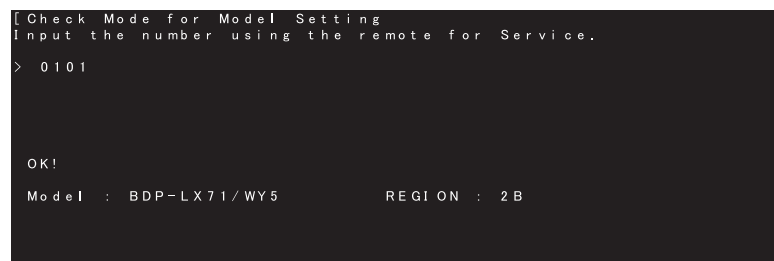

Fig. 5: Screen image 5
- > The model and region numbers are displayed for 2 sec. (Fig. 5)